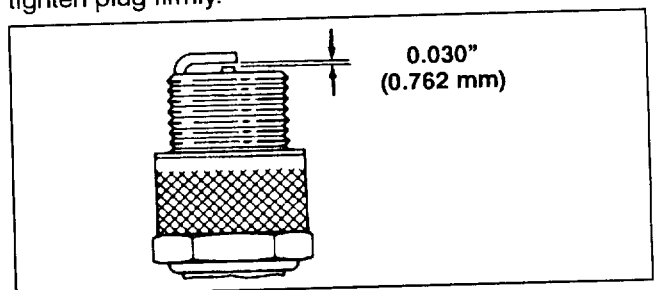

Figure 13
4. Set air gap between center and side electrodes at 0.030 of an inch (0.762 mm) (Fig. 13). Install correctly gapped spark plug w/gasket seal, and tighten plug to 15 ft-lb (20.4 N.m). If a torque wrench is not used, tighten plug firmly.